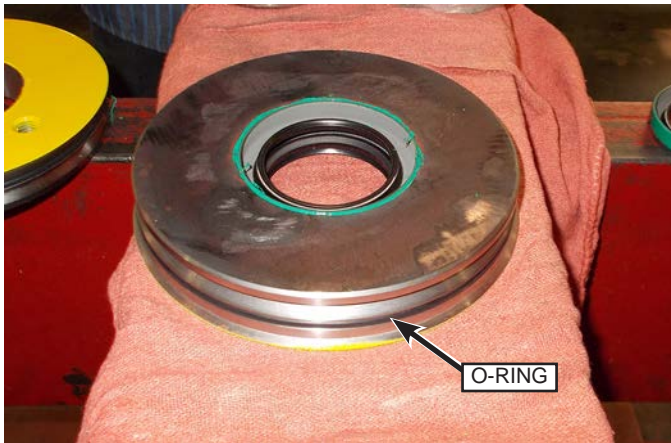

Fig. 130: O-ring Installation
4. Install a new O-ring (Fig. 130) onto the seal plate. Lubricate the O-ring with O-ring lubricant.